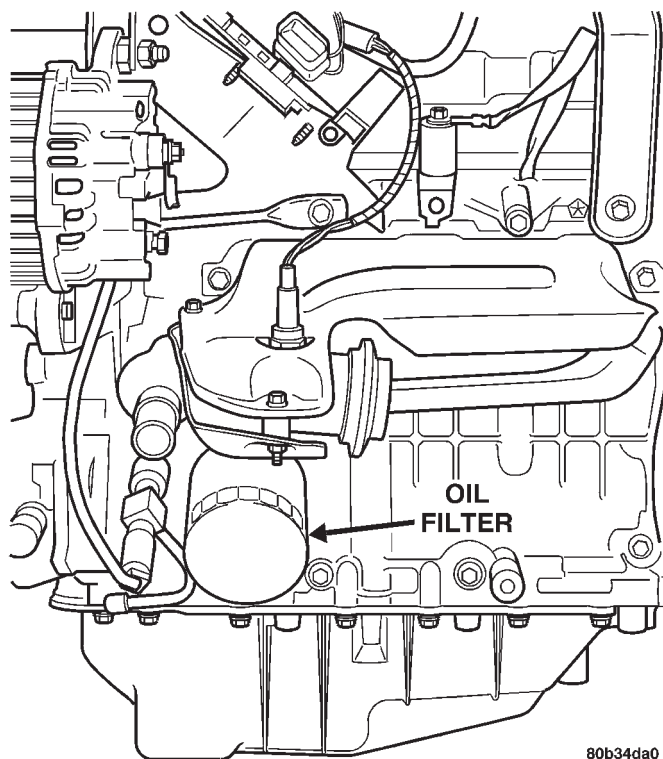

Fig. 91 Oil Filter
- (1) Using Tool C-4065, unscrew filter from base and discard (Fig. 91).
- (2) Wipe base clean, then inspect gasket contact surface.
- (3) Lubricate gasket of new filter with clean engine oil.
- (4) Install and tighten filter to 20 N·m (15 ft. lbs.) of torque after gasket contacts base. Use filter wrench if necessary.
- (5) Start engine and check for leaks.